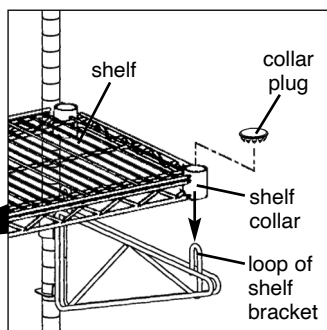

figure 6
- Lay shelf (shelves) on top of wall bracket(s), and cover shelf collar openings with collar plugs (see figure 6).